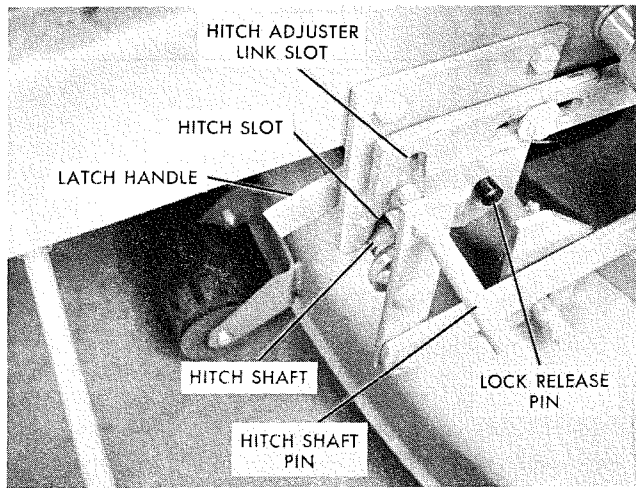

Fig. 4 — Mower Installation As Seen from Left Side
5. Adjust Hitch Adjuster Link by turning the Belt Adjustment Knob until the adjuster link slot lines up directly over the hitch slot. See Fig. 4.
6. Start engine and, using the hydraulic lift, raise mower and guide the lift shaft and lift shaft pin into their respective slots. See Fig. 4. (This can easily be done by the operator kneeling at the left side of the tractor using the right hand to operate the lift lever and the left hand to guide the hitch shaft assembly.) Lock the hitch latch securely to hold the mower in place. Shut off engine.
8. Adjust Hitch Adjuster Link by turning the belt adjustment knob until the adjuster link slot lines up directly over the hitch slot. See Fig. 4.
9. Push mid hitch latch release pin and open latch. See Fig. 4.